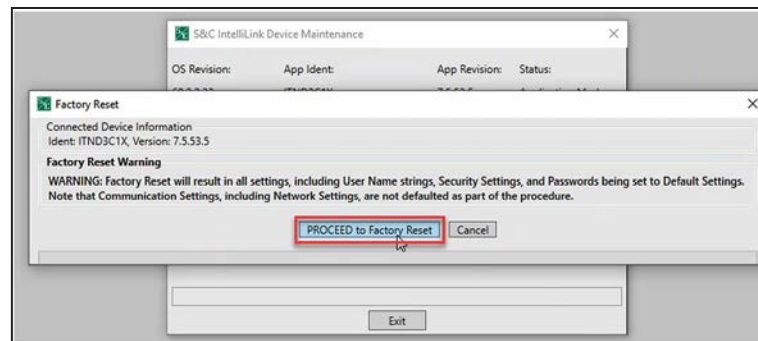

Figure 55. The **Proceed to Factory Reset** button.
STEP 4. Click on the **Proceed to Factory Reset** button when prompted. See Figure 55.